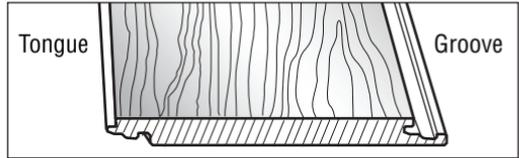

Fig. 7
2. Lay the first full piece with the **small, tongue side facing the wall** (Fig. 7).